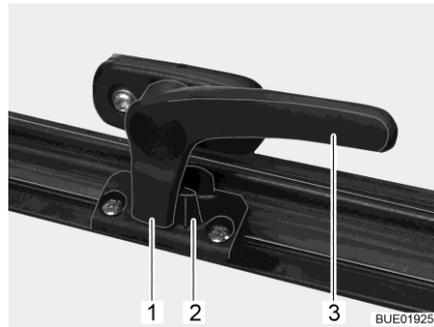

Fig. 17 Catch lever in "closed" position
- Turn the catch lever (Fig. 17,3) a quarter turn towards the centre of the window.
- Turn the catch lever (Fig. 17,3) a quarter turn towards the window frame. The locking catch (Fig. 17,1) is located on the inside of the window catch (Fig. 17,2).
- "Firmly closed" (Fig. 17).